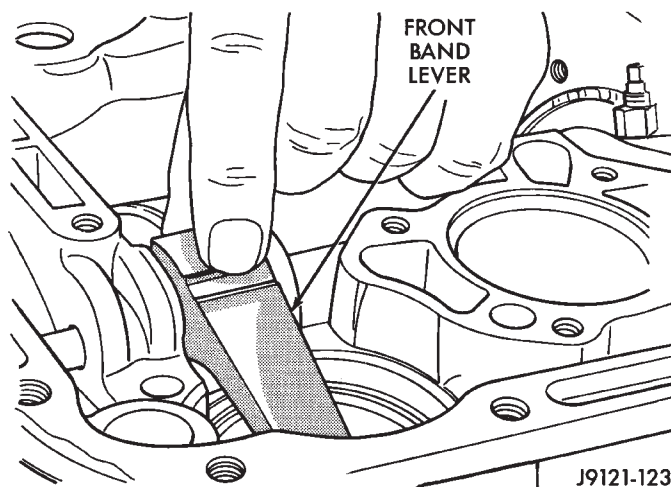

Fig. 17 Removing/Installing Front Band Lever
(26) Remove front band lever (Fig. 17)